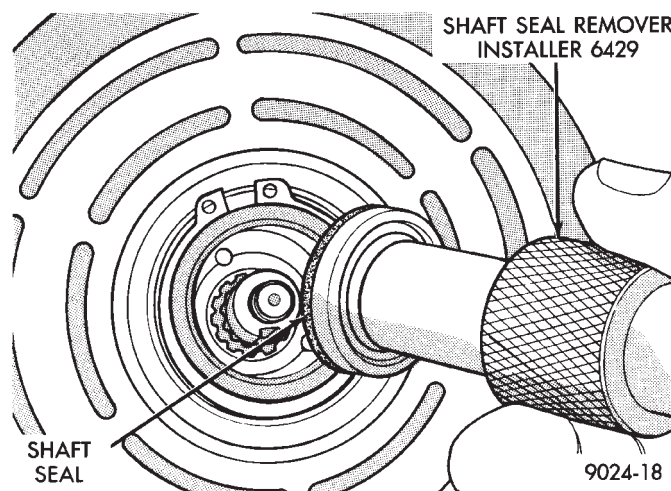

Fig. 13 Remove Shaft Seal
(7) Using Seal Remover/Installer (6429), remove the shaft seal (Fig. 13).